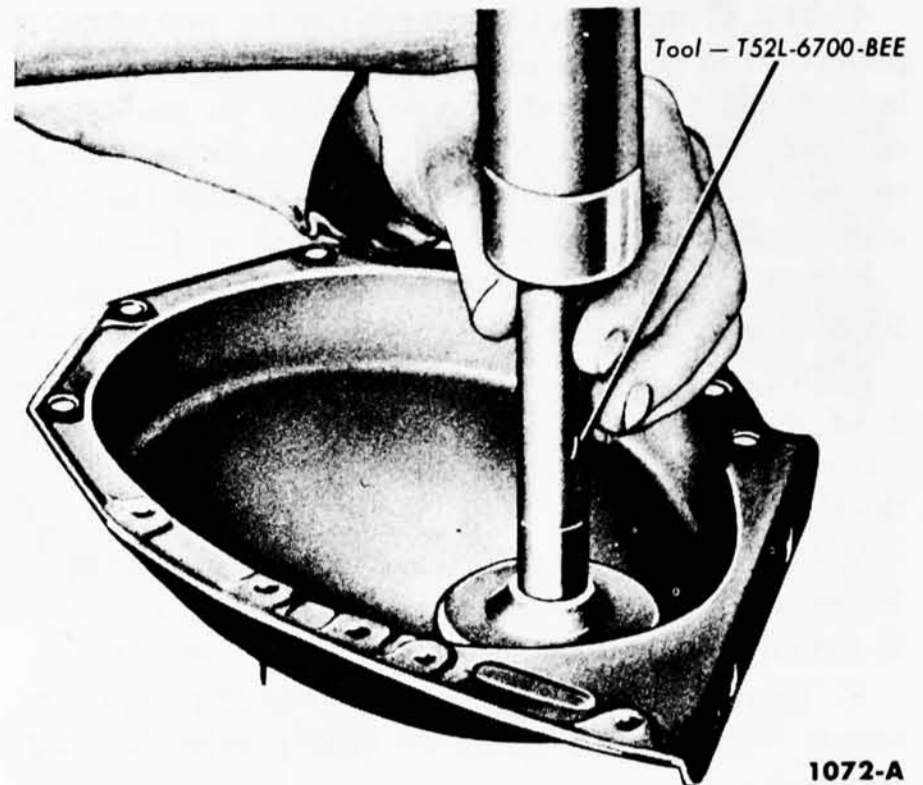

Fig. 21—Oil Seal Installation
2. Coat a new seal with grease, then install the seal (Fig. 21). Drive the seal in until it is fully seated in the recess. Check the seal after installation to be sure the spring is properly positioned in the seal.